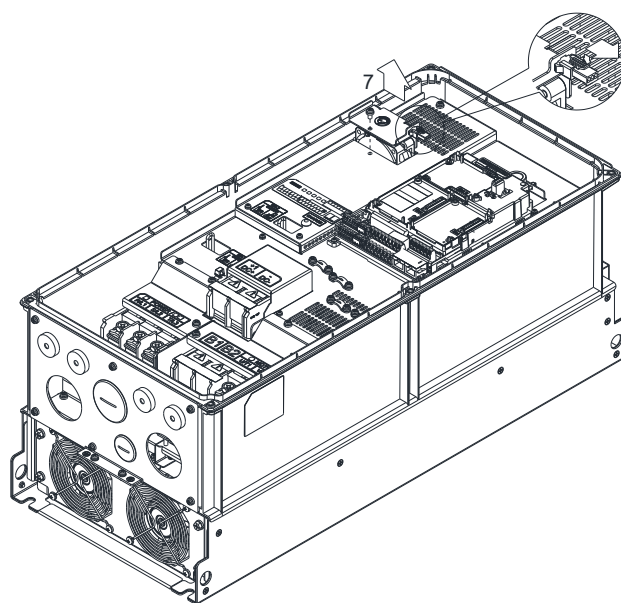

Figure 7-67
3. Loosen the screw 7 then remove the fan kit. (Refer to Figure 7-67)